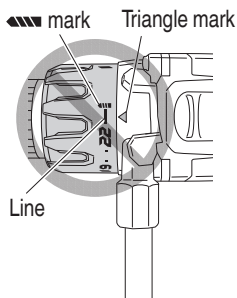

Fig. 15
- Do not use with the clutch dial set at the line between the number "22" and the drill mark "▲▲▲". Doing so may cause damage (See Fig. 15).